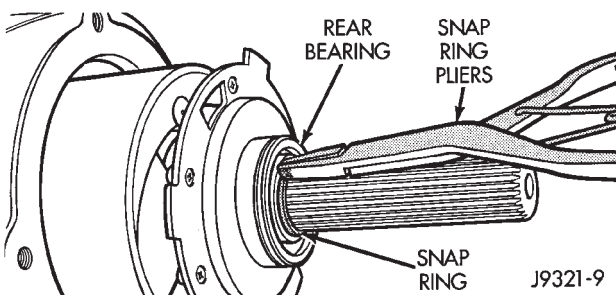

Fig. 91 Rear Bearing Snap Ring Installation
- (4) Install rear bearing retaining snap ring (Fig. 91).